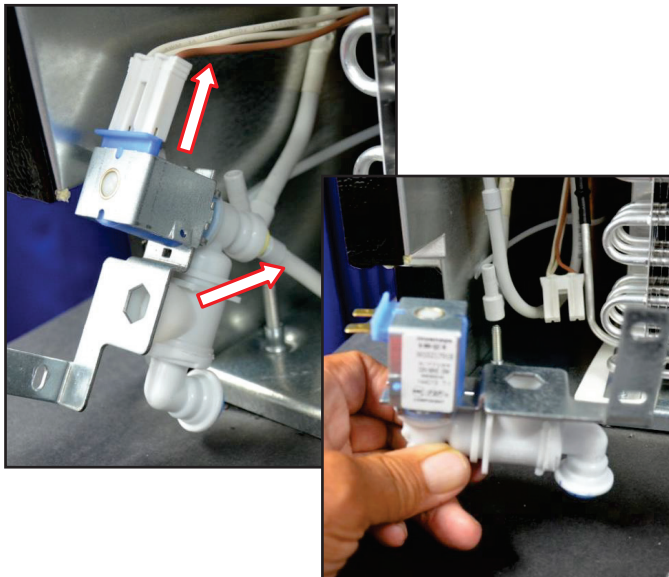

FIGURE 5
5. Pull out the water valve and disconnect the rear water tube and electrical connection. See *Figure 5*.